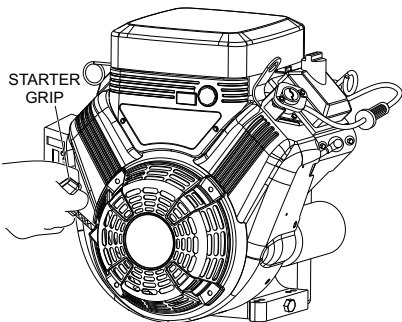

Figure 16. Starter Grip
- Grasp the starter grip (Figure 16) and slowly pull it out. The resistance becomes the hardest at a certain position, corresponding to the compression point. Pull the starter grip briskly and smoothly for starting.